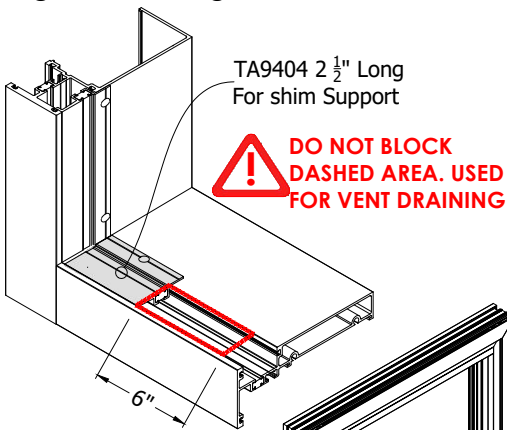

FIG. 3
- c. Install 2 1/2" long TA9404 at sill from both sides tight against adjacent pocket filler. Fasten using one S444 screw in the center of the V-groove. Seal fasteners with sealant. **See FIG. 3**
- c. Ensure weep holes are not blocked. Refer to **FIG. 3**